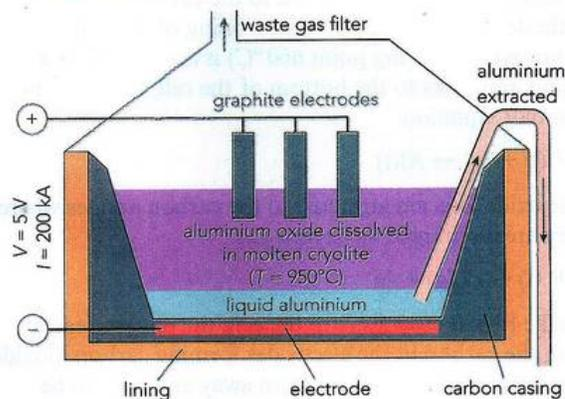

Figure 16.8: Electrolytic cell for extracting aluminium.
- 3 The molten mixture of aluminium oxide and cryolite is electrolysed in a cell fitted with graphite electrodes (Figure 16.8).
The electrolyte in the **electrolytic cell** is a solution of alumina in cryolite as shown in Figure 16.8. Cryolite (sodium aluminium fluoride, Na_3AlF_6) is a mineral found naturally in Greenland. It is no longer mined commercially there, and all the cryolite now used is made synthetically. Cryolite is used to lower the working temperature of the electrolytic cell. The melting point of aluminium oxide is 2030°C . This is reduced to $900\text{--}1000^\circ\text{C}$ by dissolving the aluminium oxide in cryolite.